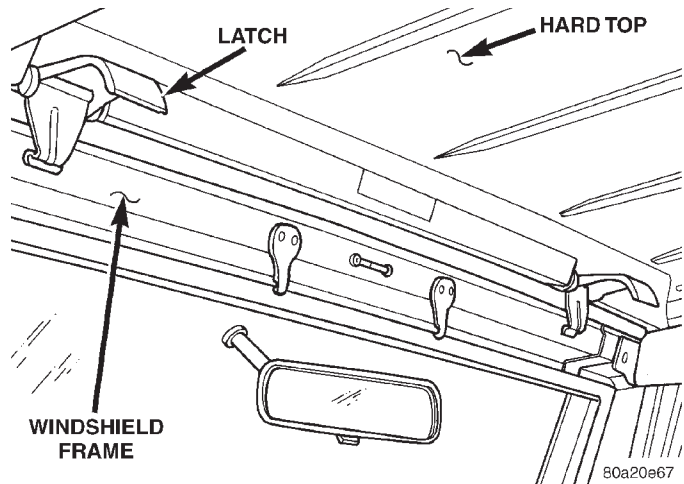

Fig. 43 Hard Top Latch
- (1) Disengage latches at windshield frame (Fig. 43).